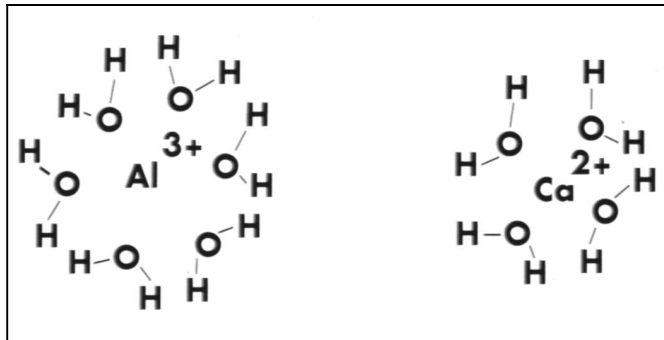

Fig. 3: Water molecules surrounded by cations (so called "Aqua-ions").
Water molecules combine readily with mineral salts, and bond easily with metal ions - collectively referred to as 'Aqua-ions' (Fig 3). Generally speaking, 'Aqua-ions' are dissolved salt or metal ions. Anions, (Carbonates - Chlorides - Sulphates) are ions that have broken away from metal-ions.
**T**he micro-particle now becomes the ideal 'host' for the loose calcium particles, allowing them to adhere to it, opposed to rough or heated surfaces (Fig. 3). These new micro-crystals will now prevent the build-up of calcium upon calcium - the primary cause of limescale build-up.
These 'host' micro-crystals (Fig. 3) will now circulate within the pipeline system ensuring free calcium particles adhere to them and no longer join up with each other. They will also assist existing limescale deposits to become porous, break up into minute fragments and float out with the water in suspension.